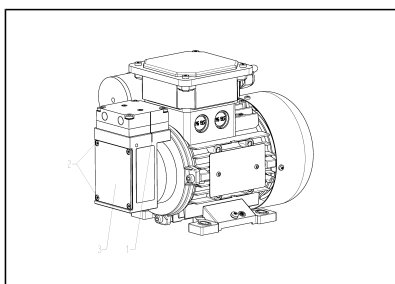

Fig.7 Marking with felt-tip pen
1. Mark the head plate, intermediate plate and housing with a felt-tip pen (Fig. 7/1) to ensure proper mounting.
2. Remove the housing cover (Fig. 7/3).
3. Loosen the four fastening screws (Fig. 7/2) and remove the housing cover (Fig. 7/3).